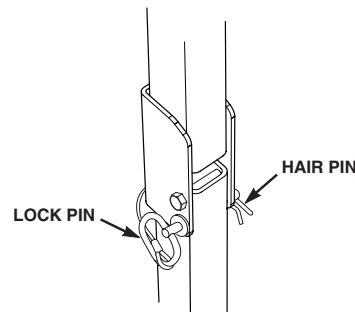

Figure 2-2. ROPS Hinge
1. To lower the roll bar, remove the hairpin cotter pins and remove the two (2) lock pins. See Figure 2-2.
4. Install the two (2) lock pins through the hole, secure with the two (2) hairpin cotter pins. See Figure 2-2.